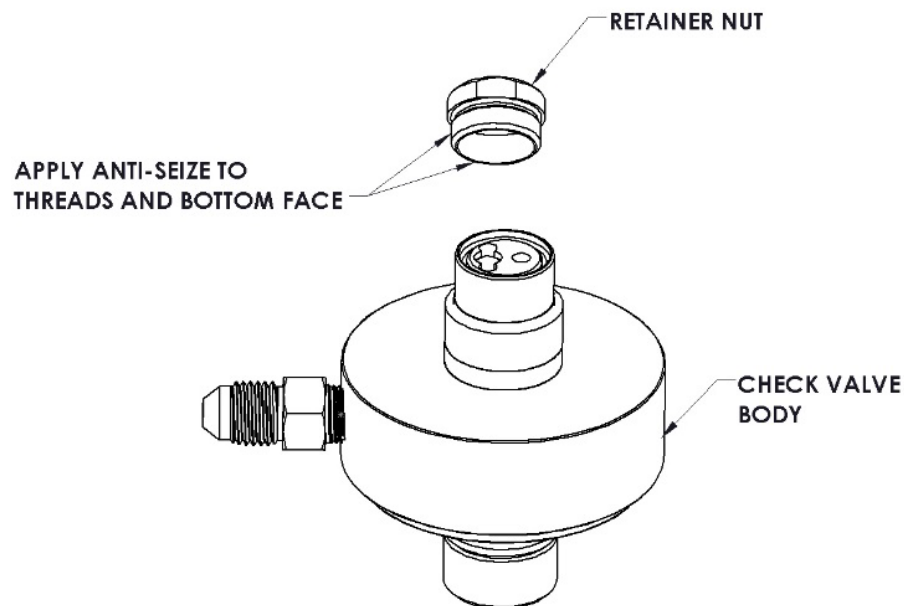

Figure 28 Applying Anti-Seize Compound to Threads and Bottom Face of Retainer Nut
13. **Apply** anti-seize compound to the threads of the retainer nut and the bottom face that contacts the retainer (see **Figure 28** below).